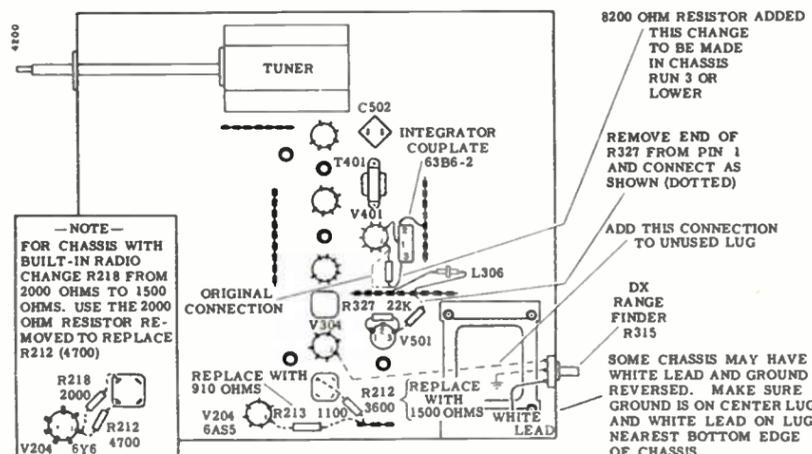

Figure 14. Bottom View of Chassis Showing Simplified Circuit Changes for Reducing Bending and Improving Horizontal Sync in Chassis Stamped Run 2 or Lower.
1. Check connections to the DX Range Finder control R315. Be sure that the center terminal is grounded and that the white wire goes to the terminal of the DX Range Finder nearest the bottom edge of the chassis. Connect a wire lead from pin 1 of V304 (6AL5) to the remaining terminal of the Range Finder control. See figure 14.
4. In some areas, it may be beneficial to increase the sync pulse level by changing the sync take-off on the video amplifier plate load. Disconnect R327 (2,700 ohms) from the junction of resistors R325 and R326 (2,700 ohms). Reconnect R327 to the junction of R325 (2,700 ohms) and peaking coil L306. See figure 14.
5. Make the Run 4 change, which consists of connecting a 8,200 ohm resistor (R443) in series with resistor R407 (between terminal 3 of the vertical integrator couplate and pin 1 of V401B). See figure 14.